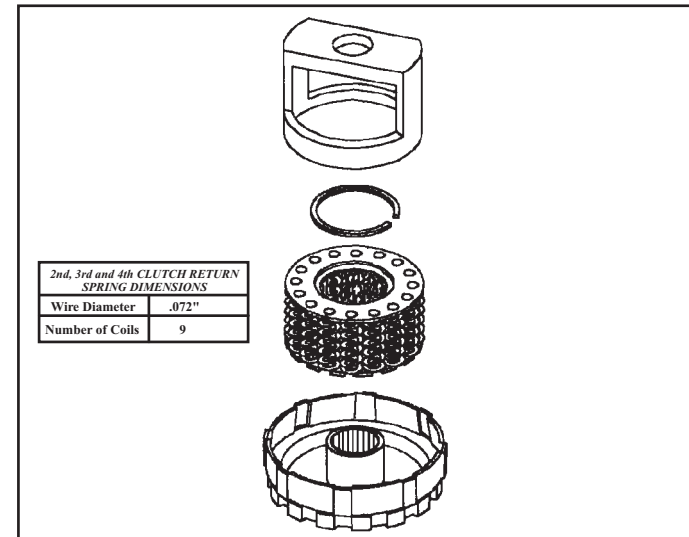

Figure 116
1. Place the piston return spring assembly into the 4th clutch drum. Using Saturn's spring compression tool SA9146T or equivalent, carefully compress the spring. With the spring compressed, use a suitable pair of snap ring pliers and install the retaining snap ring (See Figure 116).